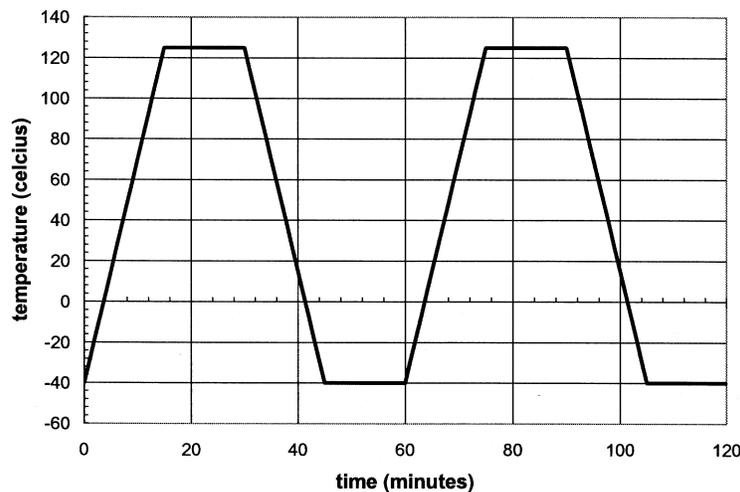

Figure 20. Temperature Cycle Test Condition Profile
- TC: -40 to 125° C, single zone, one hour temperature cycling with 15 minutes each for ramps and dwells (IPC-SM-785), shown in Figure 20.